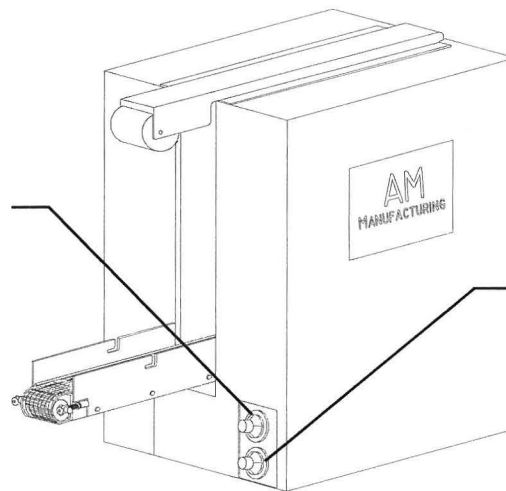

FIGURE 2
- A. SET WEIGHT AND SPEED CONTROLS TO 50% (SEE FIGURE 2).
THE SPEED CONTROL: TURNING THIS SWITCH CLOCKWISE (C.W.) INCREASES PRODUCTION RATE; TURNING IT COUNTER CLOCKWISE (C.C.W.) DECREASES PRODUCTION RATE. SEE FIGURE 2.
THE WEIGHT CONTROL: TURNING THIS SWITCH CLOCKWISE (C.W.) INCREASES WEIGHT; TURNING IT COUNTER-CLOCKWISE (C.C.W.) DECREASES THE WEIGHT. SEE FIGURE 2.